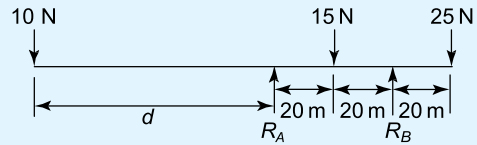

Figure 6.18
3. For the force system shown in Figure 6.18, determine distance d for the forces R_A and R_B to be equal, assuming equilibrium conditions. [80 m]